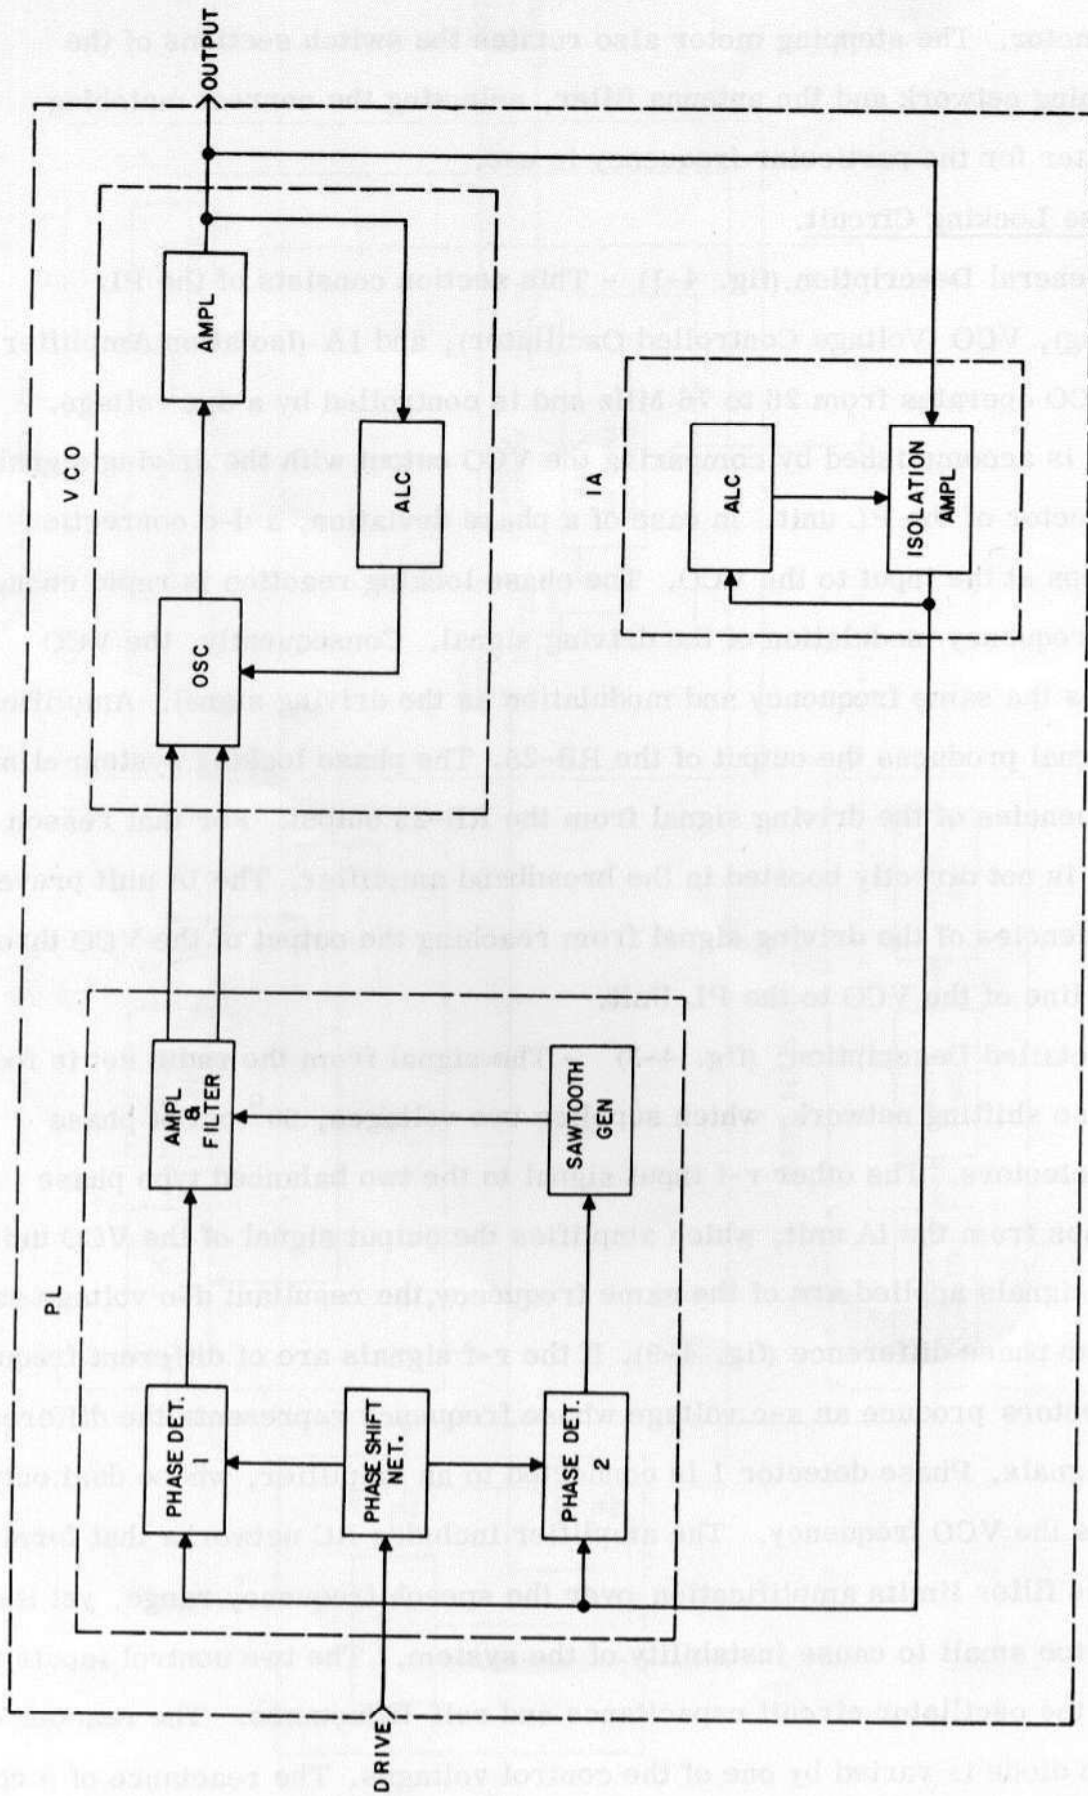
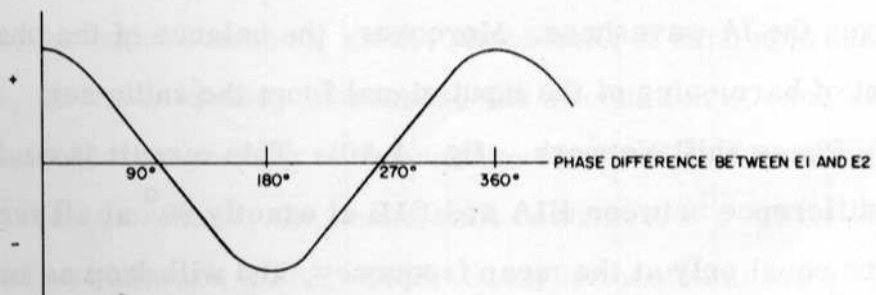
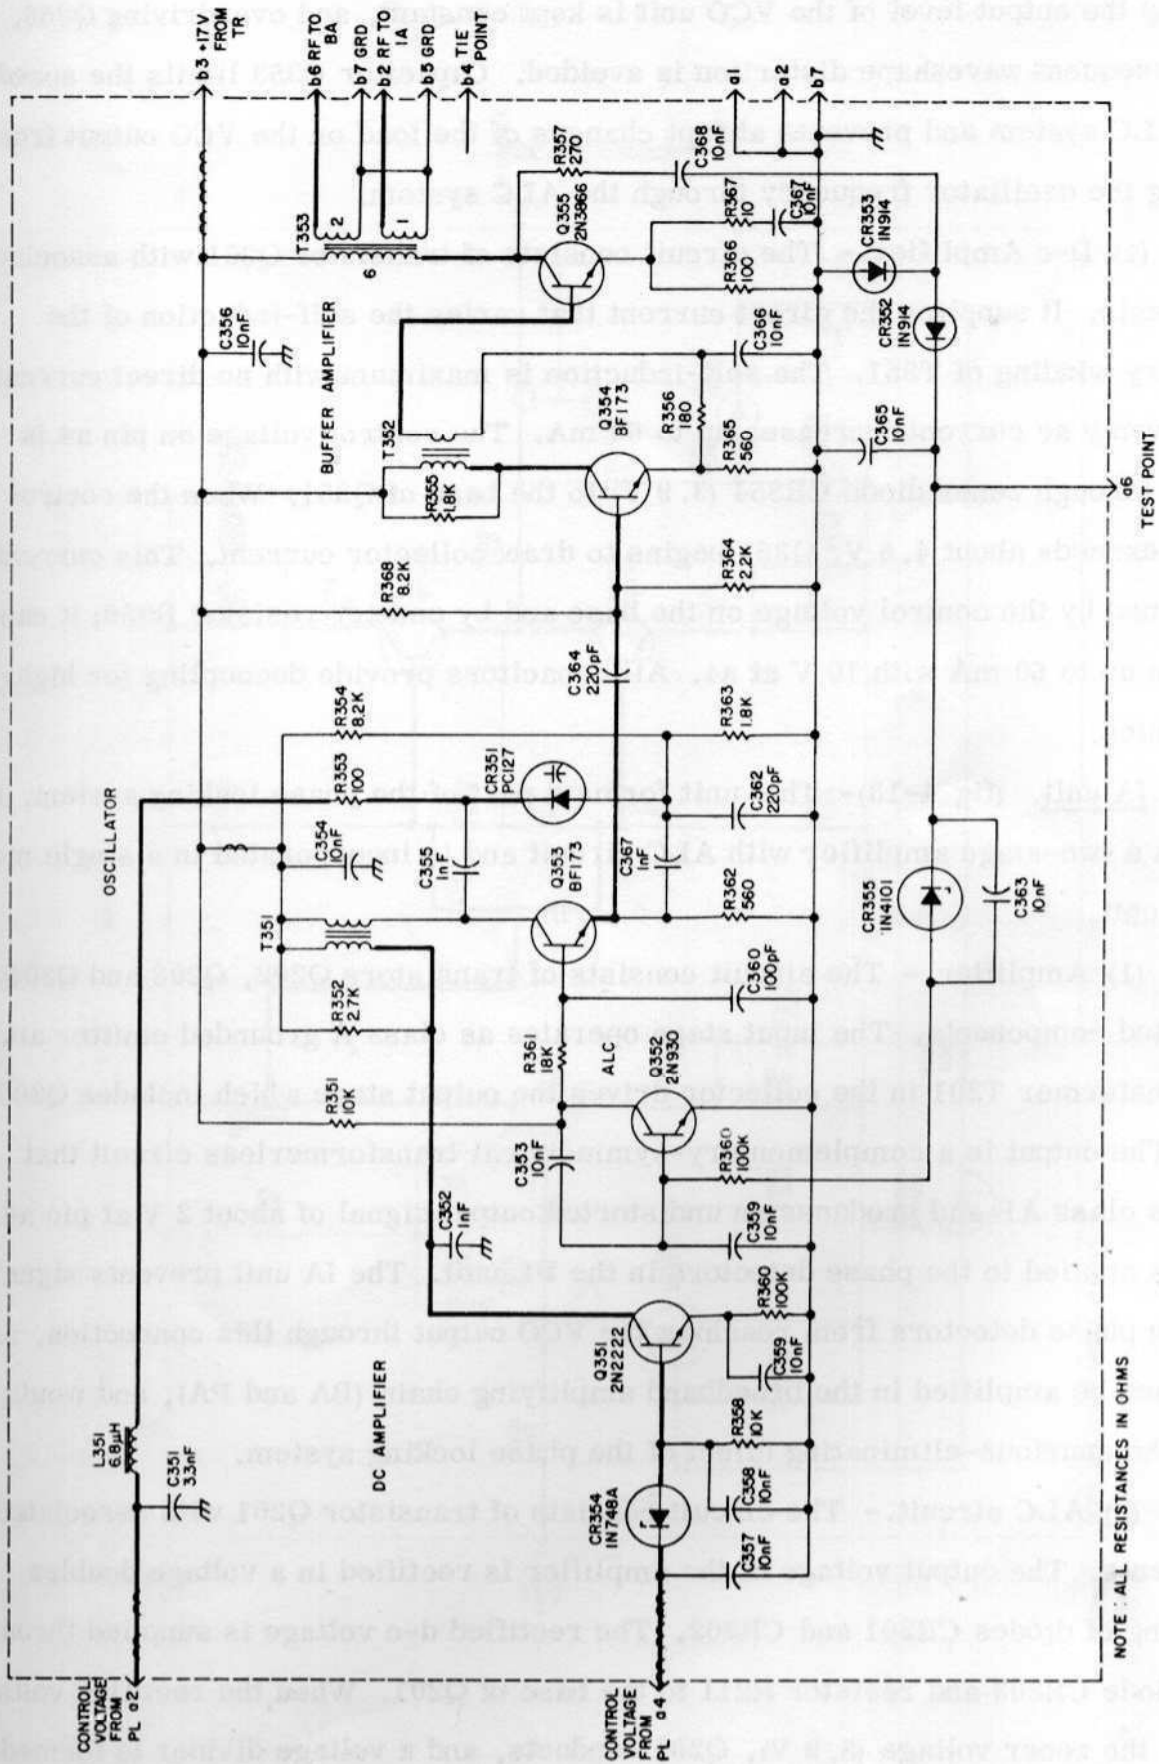

Figure 4-2. Phase Locking System, Block Diagram.
Figure 4-9. Phase Detector Output Voltage.
Figure 4-12. Voltage Controlled Oscillator (VCO) Unit A350, Schematic Diagram
(2) Detailed Description. (fig. 4-2) - The signal from the radio set is fed into a 90° phase shifting network, which supplies two voltages, 90° out of phase to the phase detectors. The other r-f input signal to the two balanced type phase detectors comes from the IA unit, which amplifies the output signal of the VCO unit. If the two r-f signals applied are of the same frequency, the resultant d-c voltage varies as cosine to the phase difference (fig. 4-9). If the r-f signals are of different frequencies, the phase detectors produce an a-c voltage whose frequency represents the difference between the signals. Phase detector 1 is connected to an amplifier, whose dual output signal controls the VCO frequency. The amplifier includes RC networks that form a loop filter; this filter limits amplification over the speech frequency range, yet its phase shift is too small to cause instability of the system. The two control inputs to the VCO vary the oscillator circuit capacitance and self-inductance. The reactance of a capacitive diode is varied by one of the control voltages. The reactance of a coil
Thus the voltage between C and D is zero when the phase difference between E1 and E2 is 90° and is positive when the angle is less than 90°, or negative when it is greater than 90°. The output voltage variation with respect to the phase difference is shown in figure 4-9.
f. VCO Unit. (fig. 4-12)- The unit forms part of the phase locking system, as shown in figure 4-2. The unit contains a voltage-controlled oscillator, a buffer amplifier, an ALC circuit, and a d-c amplifier for a current-controlled inductor. The circuit is incorporated in a three module plug-in unit.
(1) Oscillator.- The circuit consists of transistor Q353 with associated components. It is an LC-oscillator in which one of the windings of transformer T351 provides the inductance, and series-connected capacitors C355, C362 and C354, and diode CR351, provide the capacitance. The capacitors form a voltage divider which furnishes positive feedback to the emitter of Q353 through capacitor C367.